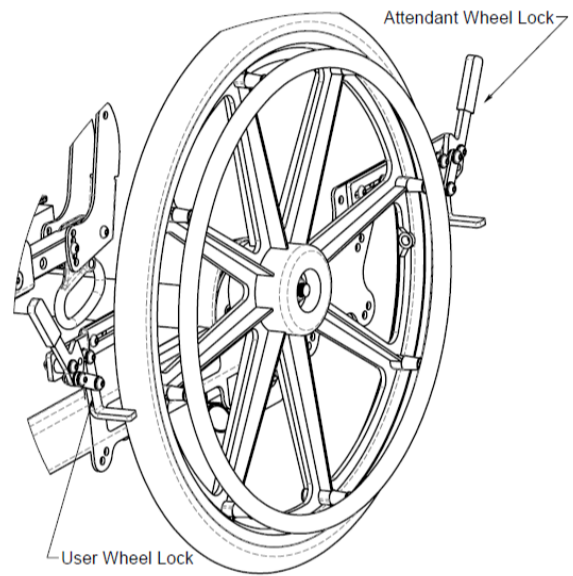

Figure 14.38: *User Wheel Locks and Attendant Wheel Locks*
4. To engage the attendant wheel lock in the User and Attendant Wheel Lock option (see Figure 14.38), follow the step 3 instructions. To engage the user wheel lock in the User and Attendant Wheel Lock option (see Figure 14.38), follow the instructions corresponding to the user wheel lock type (ie. Push to Lock or Pull to Lock).